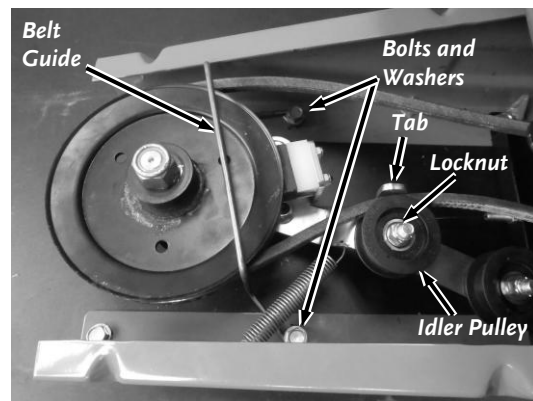

Figure 22
2. Remove the Locknut from the front Idler Pulley using a 9/16" Wrench and remove the pulley (**Figure 22**). Leave the Bushing that is under the Pulley in place.
3. Remove the Bolt and Flat Washer at the left side (bottom of Figure 22) of the Blade Pulley Belt Guide using a 9/16" Wrench.
4. Loosen the Bolt at the right side (top of Figure 22) of the Belt Guide using a 9/16" Wrench so the Guide can be rotated enough to get the Belt off the Pulley.
**NOTICE!** Make sure the new Belt is in between the front Idler Pulley and the Idler Arm Tab as shown in Figure 22.
20. Position the Belt between the Idler Pulley and Tab as you place the Idler Pulley onto the Stud (Figure 22). Secure the Idler Pulley with the Locknut using a 9/16" Wrench.